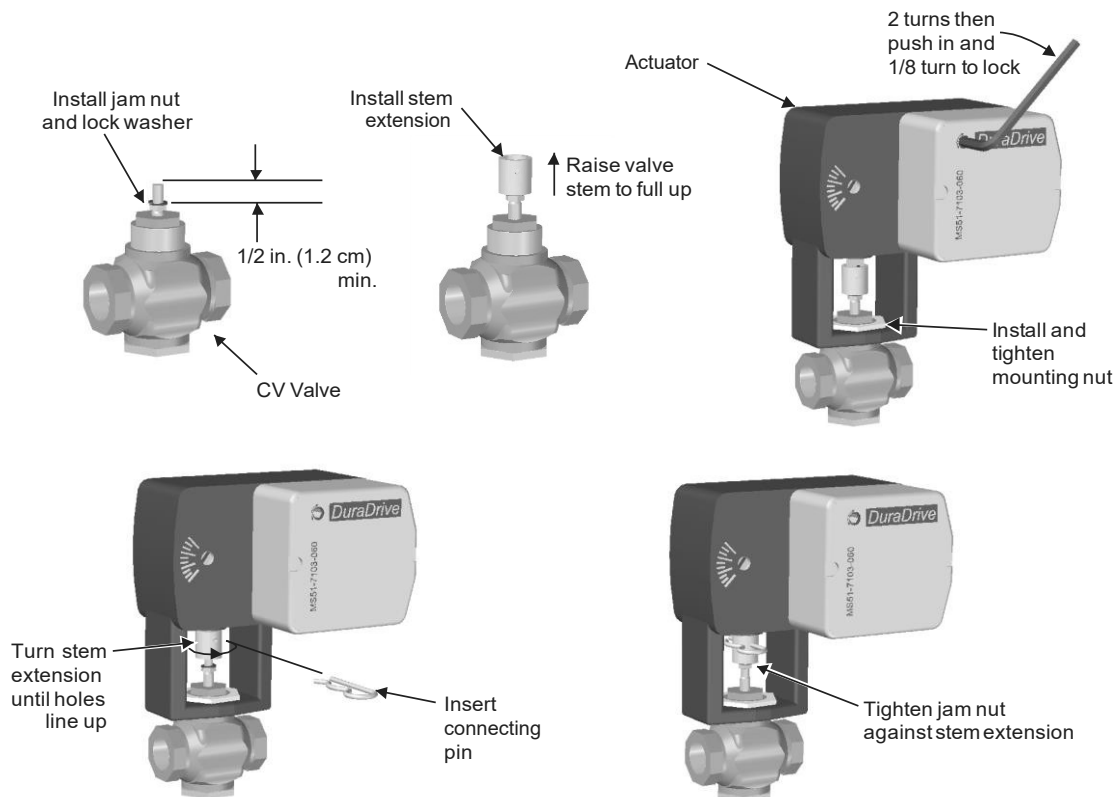

Figure 11: Schneider - CV Valve Actuator Installation
- Install the CV valve actuator following the procedure in Figure 11: CV Valve Actuator Installation after the CV valve is installed on the steam line. Wire the actuator as described in CV Valve Actuator Wiring on page 29.